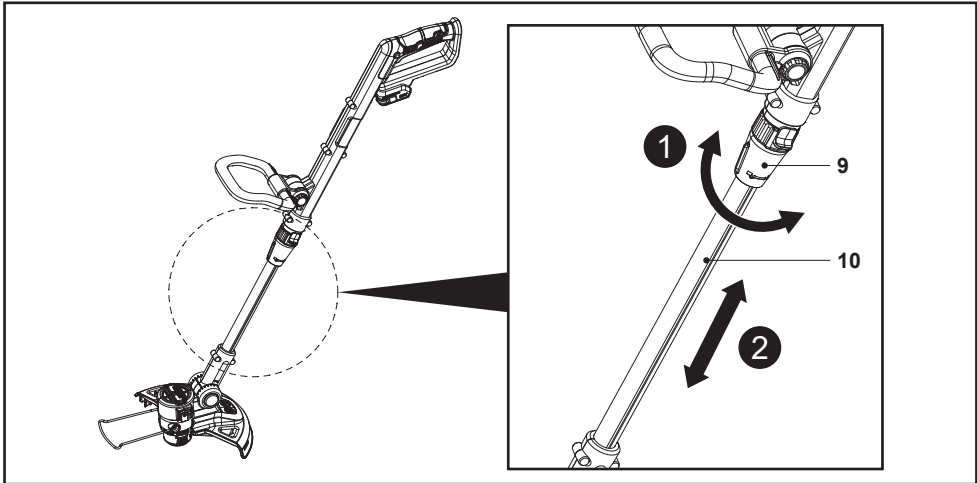

Fig. 5
1. Loosen the extension tube lock (9) by turning it in unlock  direction (Fig. 5).
2. Adjust the extension tube (10) (Fig. 5).
3. Tighten the extension tube lock (9) by turning it in lock  direction (Fig. 5).
4. Make sure that the extension tube (10) is locked.